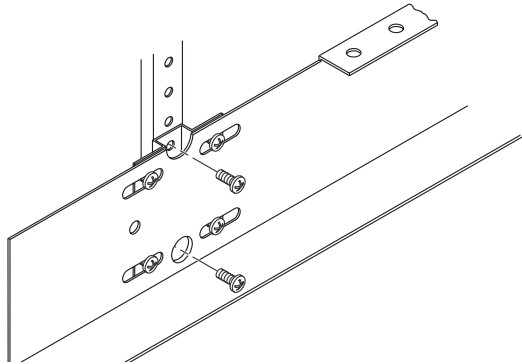

FIGURE 5-7 Removing the Mounting Screws at the Rear of the Cabinet
2. Remove the two mounting screws from the back of the mounting rail (FIGURE 5-7).